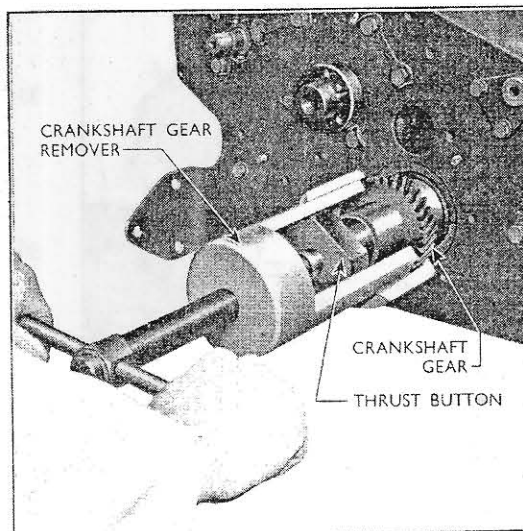

Fig. 12.
16. If necessary, remove the crankshaft gear, using the special remover (Tool No. CPT.6040) as shown in Fig. 12.